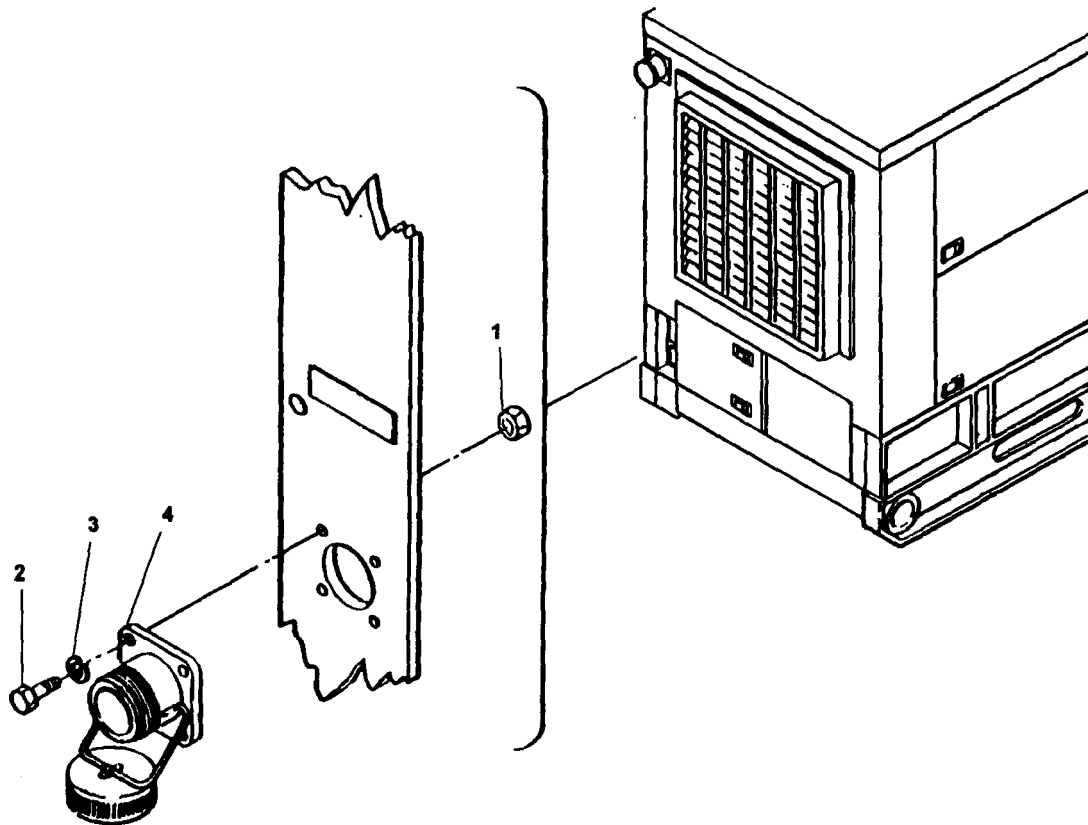

Figure 4-3. Slave Receptacle, Removal and Installation
- (1) Tag and disconnect electrical leads to the slave receptacle.
- (2) Remove nuts (1, Figure 4-3), screws(2) and washes (3) to remove slave receptacle (4).
- (1) Install slave receptacle (4), washers (3), screws (2), and nuts (1, Figure 4-3).
- (2) Untag and reconnect electrical leads to the slave receptacle.